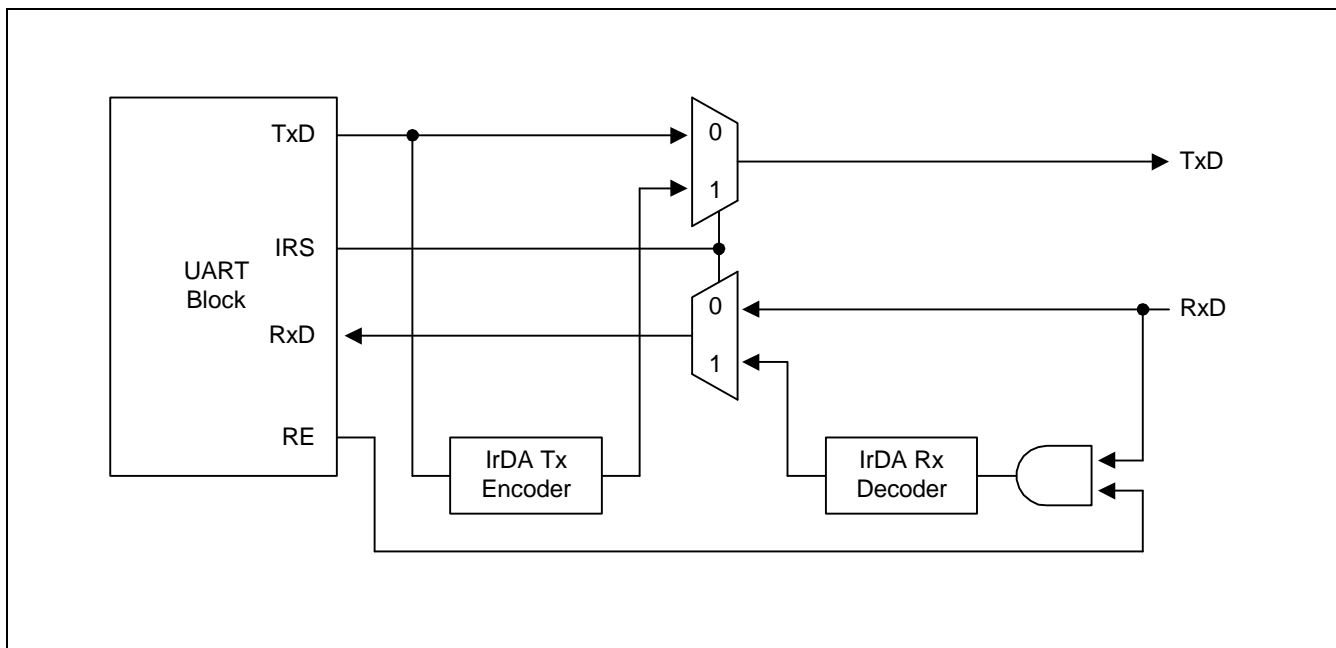

Figure 11-4. IrDA Function Block Diagram
The S3C2800 UART block supports infra-red (IR) transmission and reception, which can be selected by setting the infra-red-mode bit in the UART line control register (ULCONn). The implementation of the mode is shown in Figure 11-4.